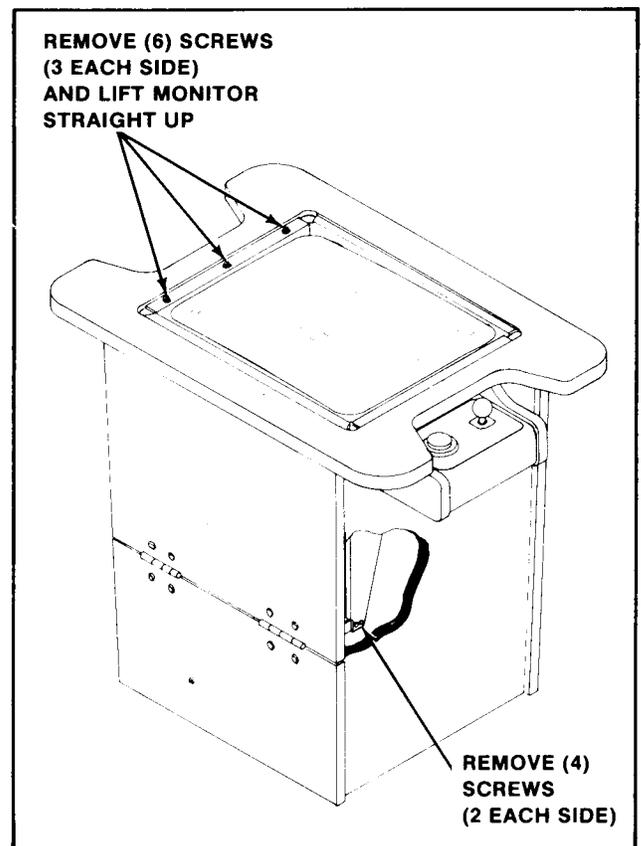

Figure 4-12 Removing Monitor — Cocktail
- Remove the screws holding the T.V. monitor chassis to the "L" brackets by the door hinge(s). See Figure 4-12.
- Remove the screws which secure the T.V. monitor mounting brackets to the edges of the slot cut in the table top. See Figure 4-12.